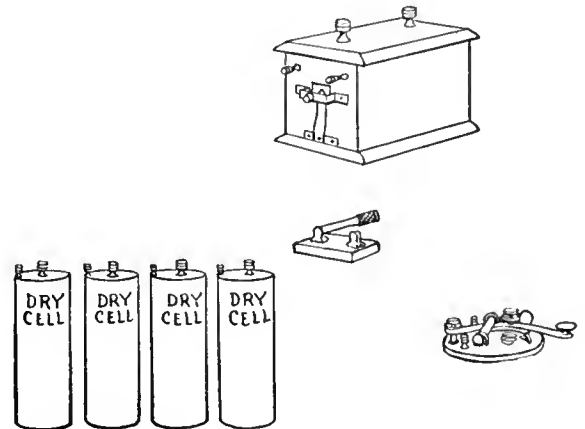

FIG. 461
6. In your notebook connect by a pencil line the parts of a simple wireless sending set as shown in Figure 461. The pencil line represents the wire.